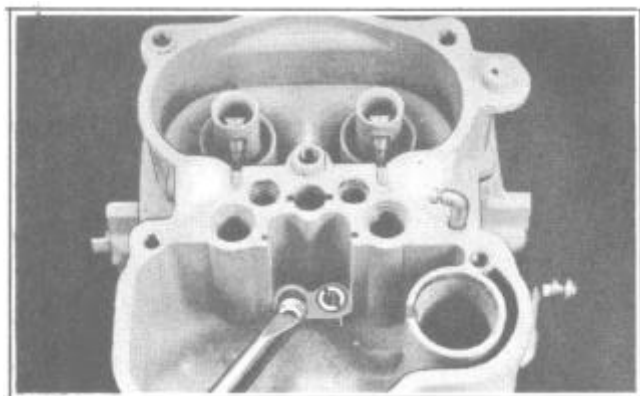

FIGURE 58
7. Remove both metering rod jet assemblies and fibre gaskets, Figure 58.